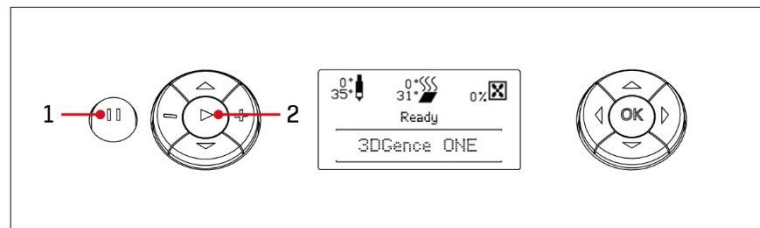

Fig. 17. 3DGence ONE navigation panel: PAUSE (1) i START (2).
To increase functionality and facilitate the use of the printer, 3DGence ONE unit has been equipped with PAUSE button (fig. 17) (1) that has the following functions:
To resume the printing process press START button (button 2, fig. 17), regardless of whether PAUSE button was pressed once or twice.